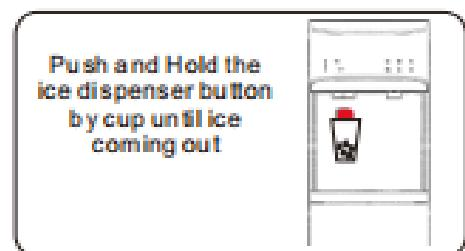

Fig 10
2. Use the water cup to push the ice dispensing button and hold it until the ice comes out from the spout; After releasing the button, the ice dispensing will stop **(Fig 10)**